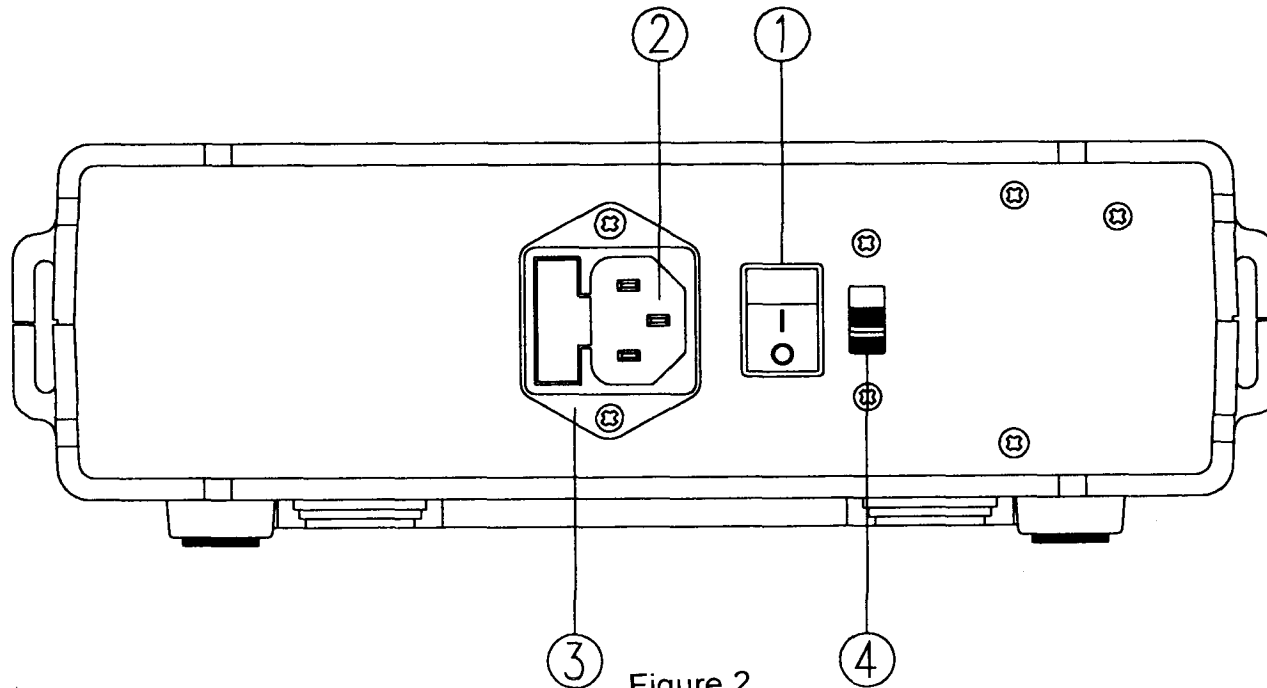

Figure 2
- Fig.2 shows the controls and connections on the back of the unit.